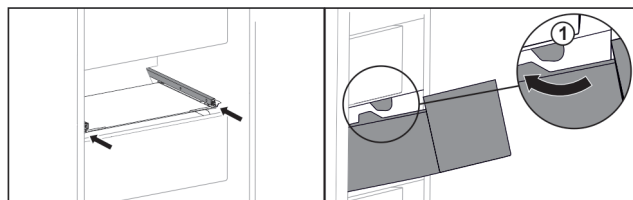

Fig. 113
- Guide drawer around the stoppers Fig. 113 (1).